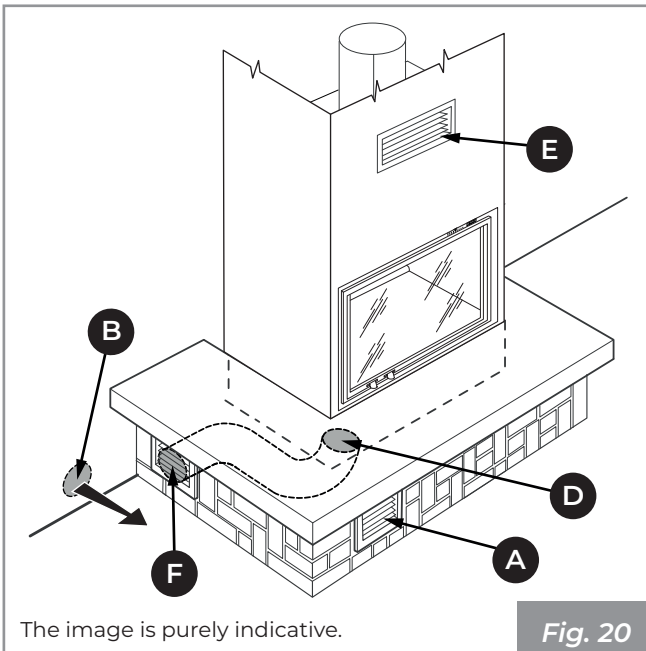

Fig. 20
- **Fig. 20:** air intake (F) on the cladding, ducted as far as the firebox (D). Lower grille (A) provided in the cladding and external air intake (B) for the recirculation of ambient air.